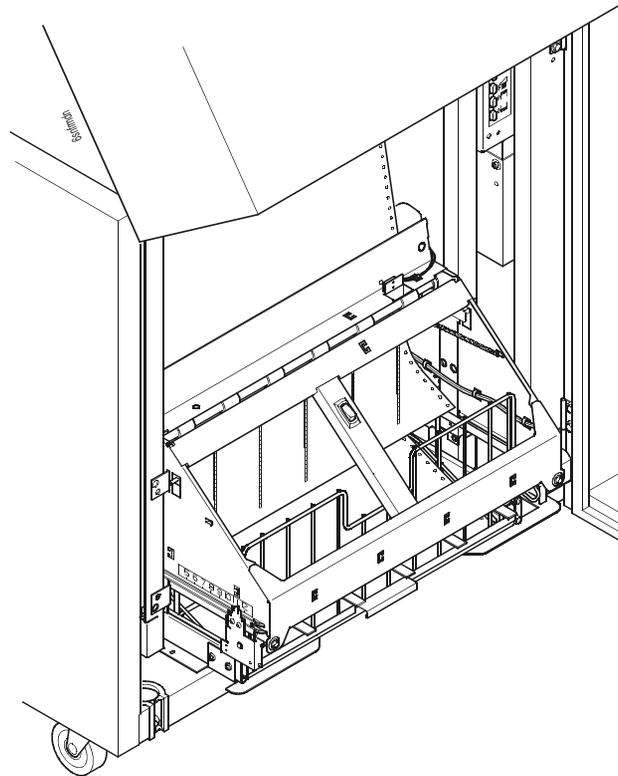

Figure 76. Power Stacker in Print Position
3. Press the **ON LINE** key on the front or rear control panel to put the printer in the online state. The stacker elevator will descend to its lowest position. (Figure 76.)